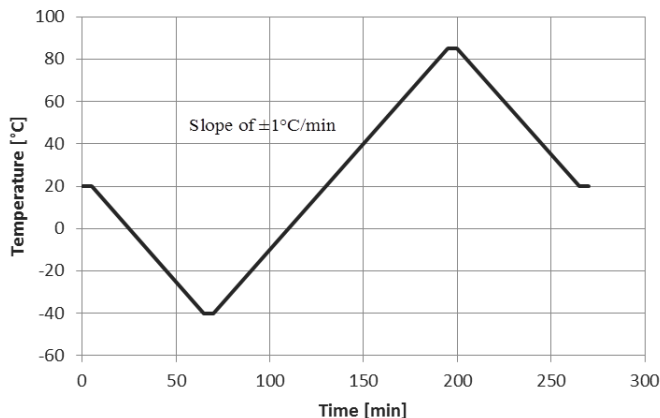

Figure 28: Recommended Temperature profile for calibration
2. Place the sensor on a rate table in a thermal chamber and implement temperature profile according to Figure 281